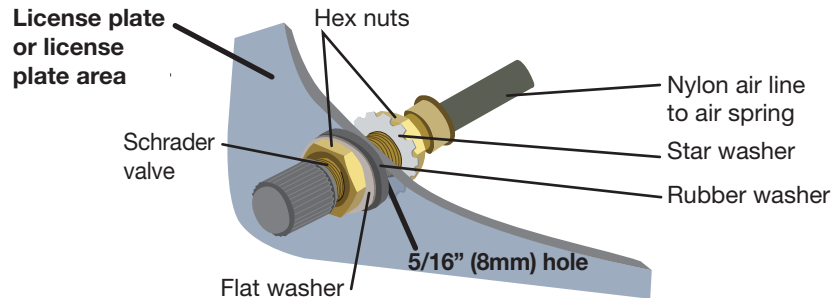

fig. F.3
3. Install the Schrader valve in the chosen location (Fig. F.3).